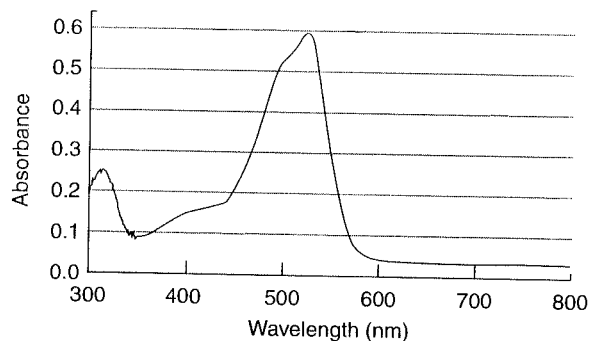

Figure 35.1 A representative absorption spectrum of a laboratory solution. Provided by Mike Schuder, Carroll College, Minnesota.
Plot the data, absorption, *A* (ordinate) versus wavelength, λ (abscissa), manually or with the appropriate software to determine the λ_{\max} , the wavelength where maximum absorption occurs for your metal ion (see Figure 35.1). Ask your instructor to approve your graph.
- Refer to Figure 35.1.
- The Co^{2+} ion has a λ_{max} for absorption at 510 nm. Will a Co^{2+} solution have the same exact color as the solution of Figure 35.1? Explain.